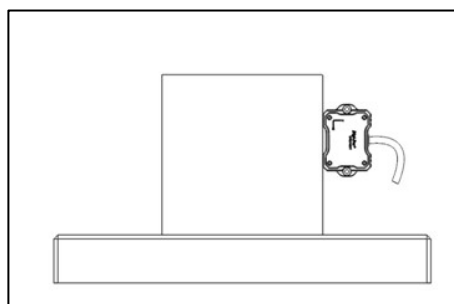

Figure 37. Tilt Sensor Module Position of Calibration Step 3
- Locate the sensor module as following Figure 37. The sensor is ready for user to perform calibration step 1.